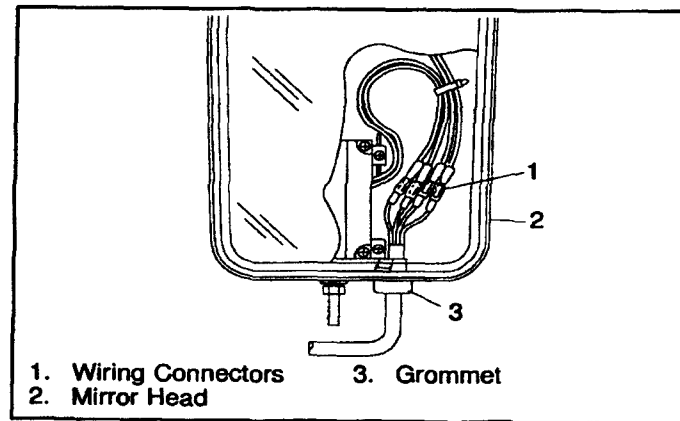

Fig. 1, Disconnecting the Wiring
3. Using pliers or a grommet tool, depress the grommet tab and remove the plastic grommet for the mirror wiring harness from the bottom of the mirror head. See Fig. 1.